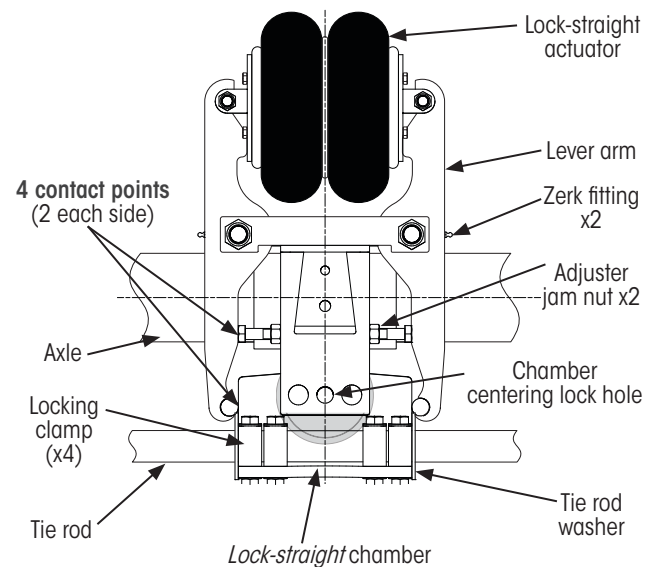

Figure 29: Self-steer axle lock-straight mechanism (bottom view)
During alignment or adjustment of the self-steer axle, the lock-straight assembly (Figure 29) is used to lock the tie rod in the center position while the wheels are checked and/or adjusted to point straight forward on the trailer, with toe.
- B. No excess **wear** at the four lever arm contact points (Figure 29) and pivot points.
- C. All four contact points (Figure 29) have **no gaps**.
NOTE: If properly positioned, tie rod washers (Figure 29 on page 22) should maintain wheel center position after clamps are loosened. These washers are typically tack welded in position during initial suspension installation or when replacing a tie rod assembly.